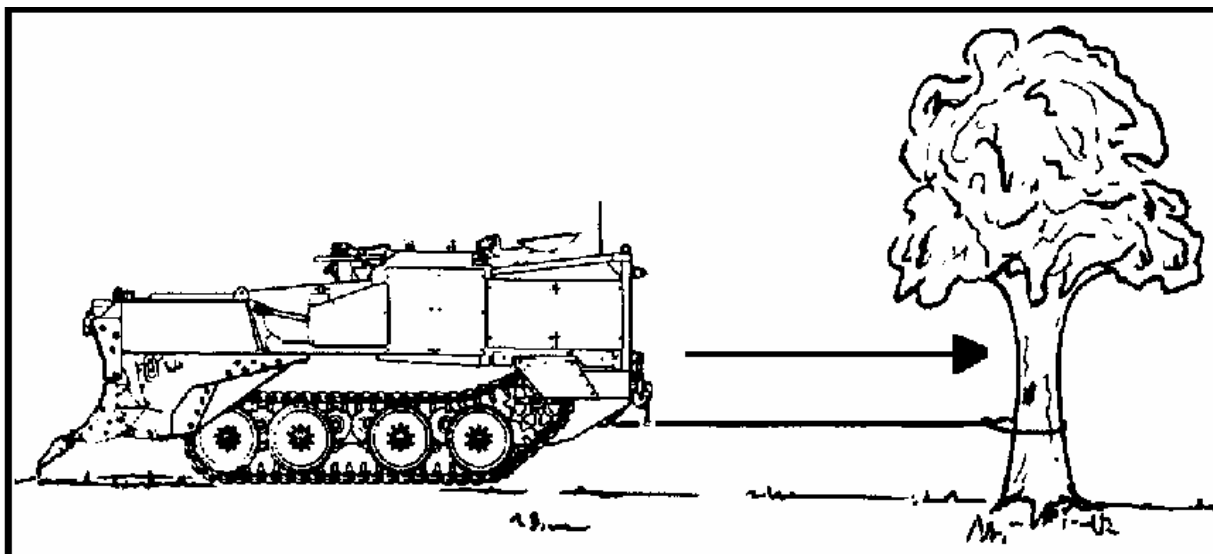

Figure 052-227-1103-6
- a. Instruct the assistant to stretch out the cable, and attach it to a suitable anchor, such as a tree or another heavy vehicle (Figure 052-227-1103-6).